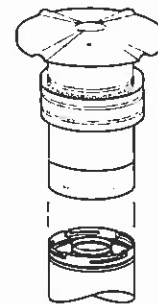

FIGURE 24
K. Install the vertical termination - The final step involves installation of the SV4.5VTR Vertical Termination. Extend the vent sections to the height as shown in the "Vertical vent termination section" on page 5. The SV4.5VTR Vertical Termination (*Figure 24*) installs in the exact same fashion as any other **Secure Vent** section. Align the termination over the end of the previously installed section, adjusting the radial alignment until the four locking dimples of the termination are aligned with the inlets of the four incline channels of the last vent section. Push the termination down until it fully engages, then twist the termination clockwise running the dimples down and along the incline channels until they seat at the end of the channels.